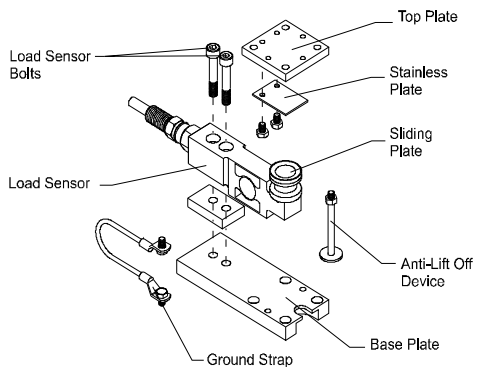

FIG. 23: EXPLODED ISO VIEW OF FREE SLIDING LOAD POINT ASSEMBLY
- Step 1. Use a box-end wrench to loosen the nut that fastens the anti-lift off device to the top plate. Remove the anti-lift off device. (See Fig. 23)
- Step 4. Remove the two load sensor bolts that fasten the Load Sensor to the base plate with a box-end or crescent wrench. (Fig. 23)
- Reinstall the ground strap and anti-lift off device. (See Fig. 23)